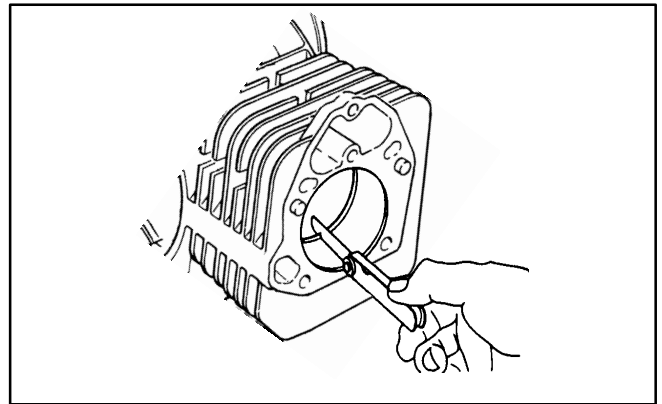

FIGURE 9-27. MEASURING RING GAP
2. Measure ring gap (Figure 9-27).